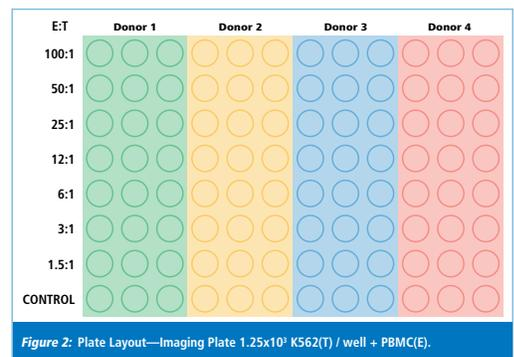

Figure 2: Plate Layout—Imaging Plate 1.25x10³ K562(T) / well + PBMC(E).
- g) Resuspend cells in the plate and transfer 50µl of cell solution from each well of the culture plate to a corresponding well in a 96-well, flat-bottom imaging plate. Repeat for 2 additional wells per sample (triplicates for each sample; **Figure 2**).